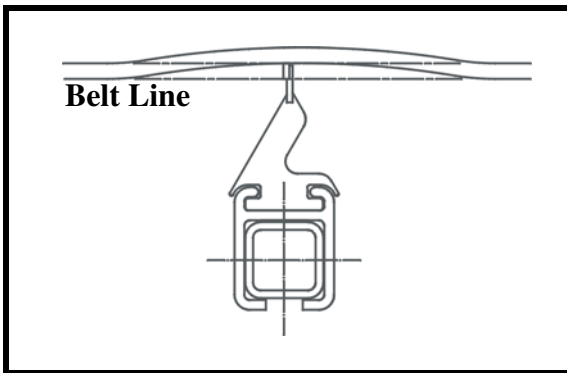

Figure 3a. Cleaner Changing Belt Line
3. Make sure cleaner is not changing belt line (See Figure 3a). If it is, install belt support 2.00 in. (51 mm) ahead of blade-to-belt contact point.